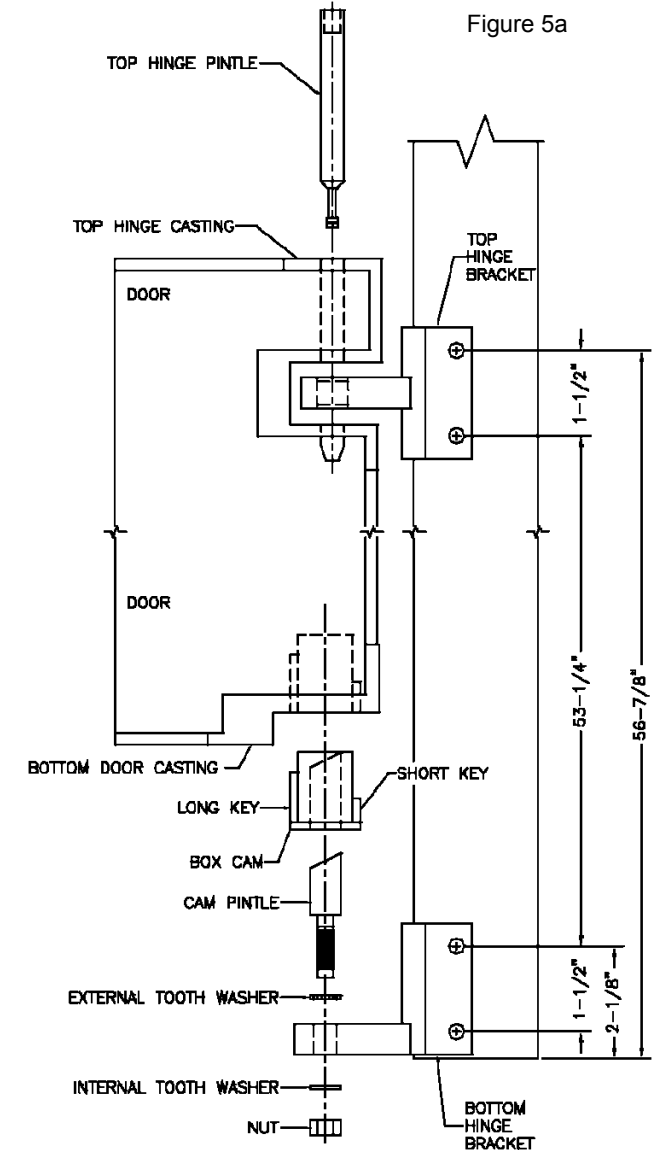

Figure 5a
- Attach top and bottom hinge brackets to pilaster with thru bolts (4-total). If pilasters were not pre-drilled at the factory, use dimensions shown in Figure 5a as a drilling (1/4" bit) guide.
- Assemble cam pintle, external tooth washer, internal tooth washer, and 1/2" hex nut to the bottom hinge bracket as shown in Figure 5a and hand-tighten (to be wrench-tightened later).
- Insert box cam into bottom door casting as shown in Figure 5a, with short key pointing toward hinge side (edge) of door.
- Set door onto bottom hinge cam pintle. Bring door up so the top hinge casting is in line with the top hinge bracket as shown in Figure 5a. Insert the top hinge pintle and tap it down so it's flush with the top of the door.